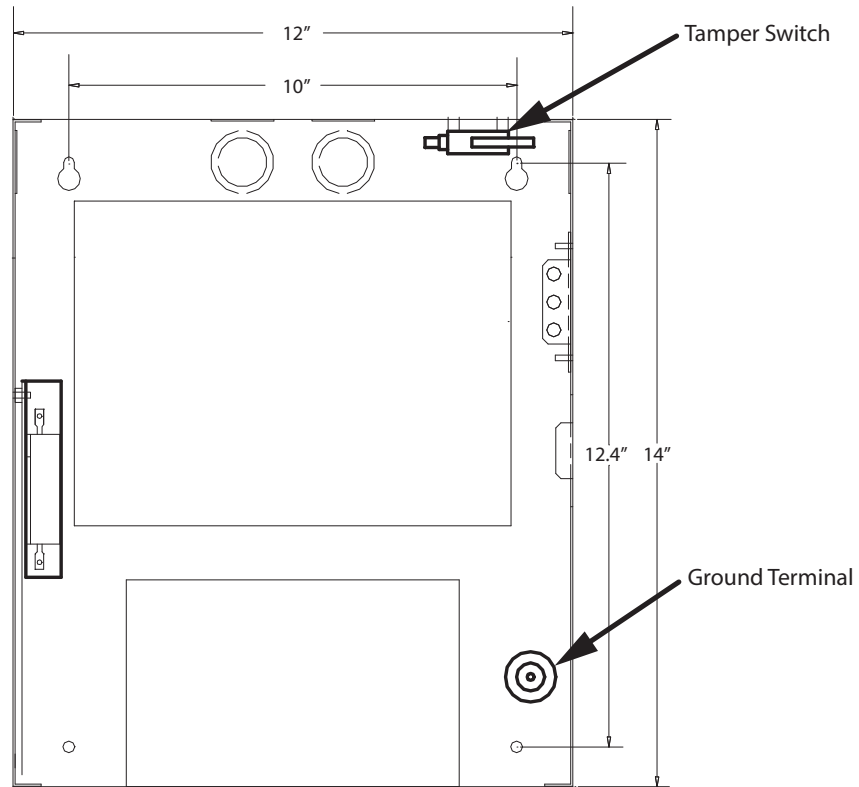

Figure 5. Controller Back Cover Dimensions and Optional Component Location
The Card Access Controller surface mounts with four screws as shown in figure 5. The back cover is 12 inches wide by 14 inches long. The top two mounting holes are 10 inches apart.
The Card Access Controller enclosure mounts directly on the wall to the wall stud using the mounting screws locations as shown in figure 5.
2. Using the controller back cover as a template mark the top two mounting hole locations 10" apart as shown in figure 5.
The tamper switch is located at the top right corner of the back cover shown in figure 5. Connect the tamper switch wire to the general purpose input and correlate the opening of the cover to a specific output (action). For a complete description of correlations see section 2 on page 13.
The power supply connection is situated at the bottom right of the main controller board and receives 16 VAC, 40 VA. Use 18 AWG wiring. An external PS-4 or PS-4P plug-in transformer connects to the power terminals. Refer to Figure 5 and figure 10.